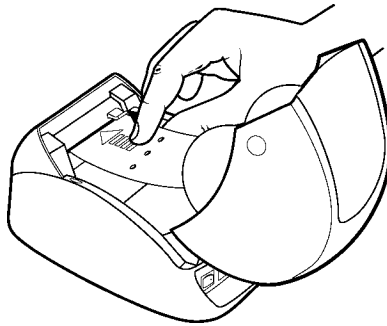

Figure 1-4. Hold the labels in one hand. Use the other hand to guide the labels into the label feed slot.
8. Place the spool inside the top cover of the LabelWriter, then thread the lead label of the roll into the feed slot on the inside of the printer base (See Figure 1-4).